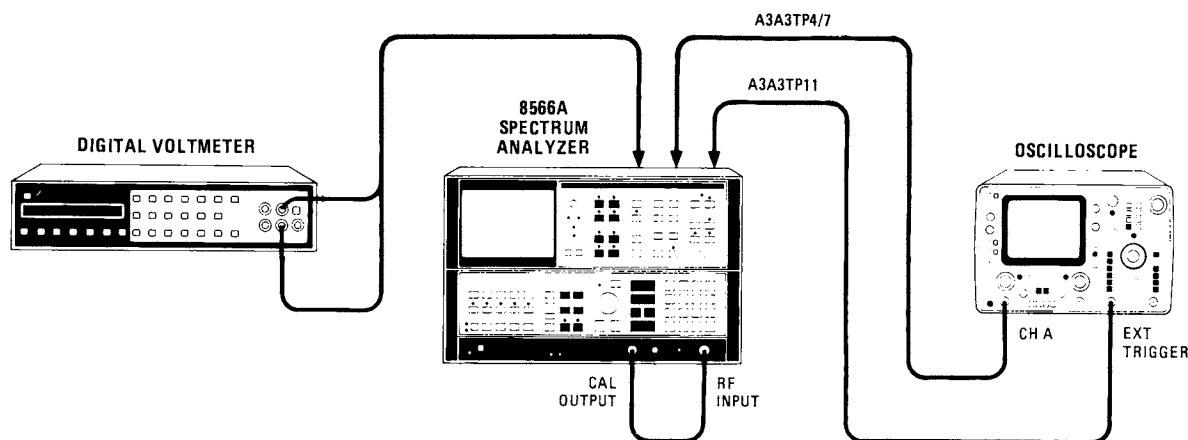

Figure 5-75. Digital Storage Display Adjustments Setup
1. Place instrument upright as shown in Figure 5-75 with top cover removed.